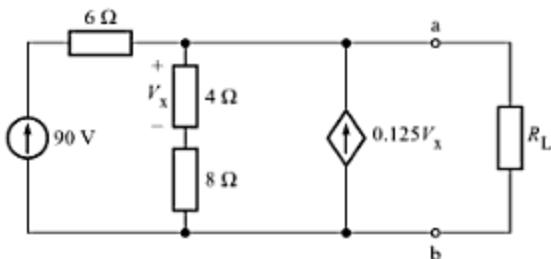

Fig. A-122
- A-89. In the circuit of Fig. A-122, what resistor R_L will absorb maximum power and what is this power?